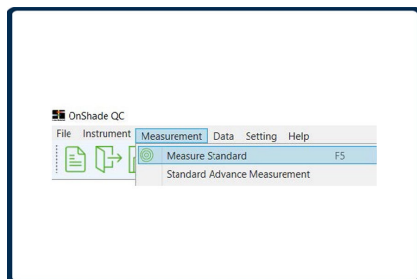

Figure 19: Standard measurement
2. From the menu select "Measurement">"Measure Standard" (Figure 19) or click the Standard Measure icon  from the toolbar or use the shortcut key F5.